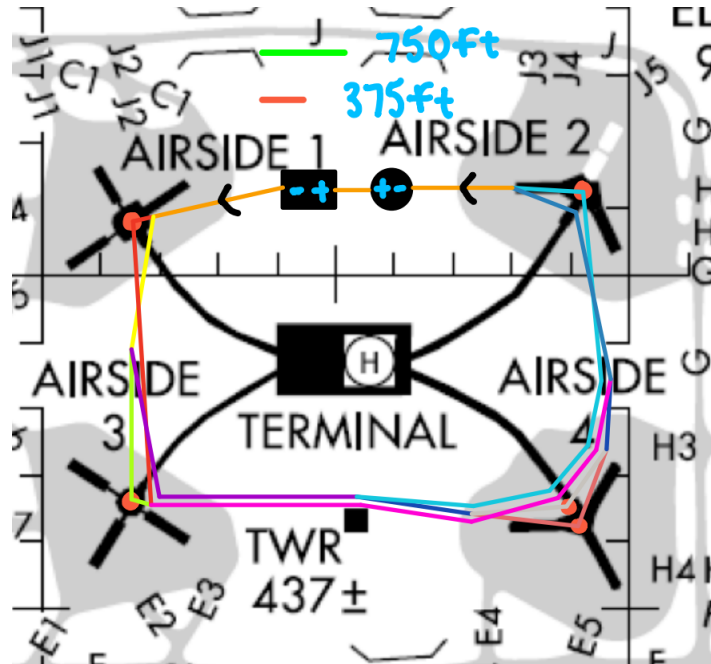

Figure 2: Physical Map of the Chiller System
The first step is to obtain a physical mapping of the airport. A schematic of the airport was given to determine a rough idea of the lengths for each line. The location of the mechanical rooms were assumed to be somewhere in the center of each airside (shown in Figure 2).
- Pipe 1 is attached to two flow through run tee connectors with a loss of 0.4 (according to Table 1-1 in the text). It is possible with the mapping shown in Figure 2 and 4 for there to be no elbows. $K_1 = 1.78 + 2(0.4) = 2.58$